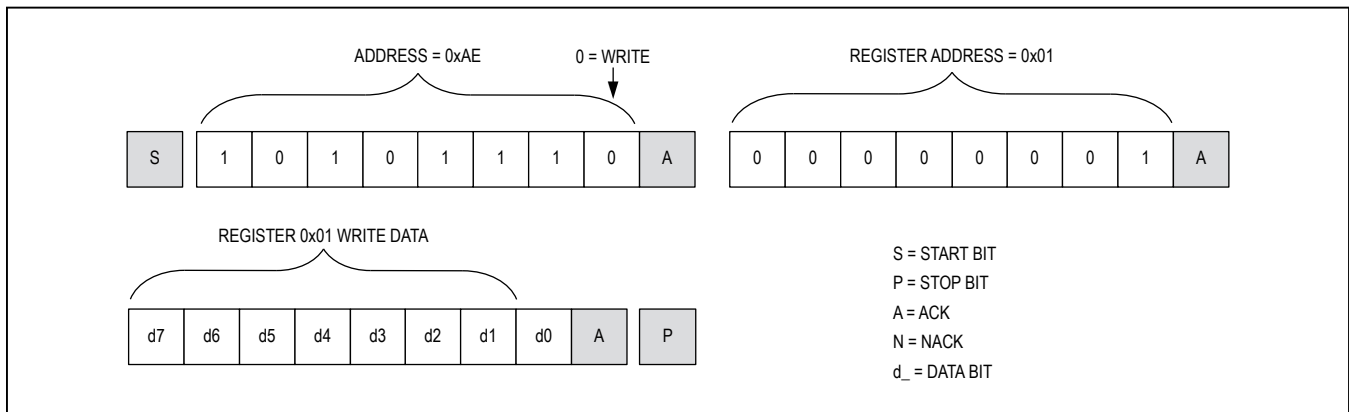
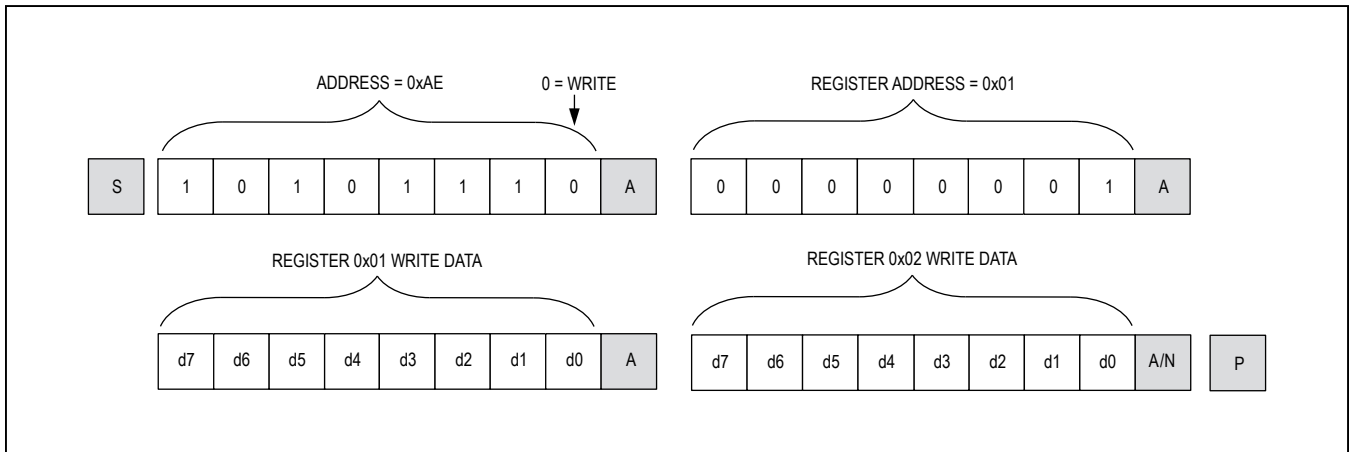

Figure 6. Format for I²C Write
Figure 7. Format for Writing to Multiple Registers
A write to the MAX20330A comprises the transmission of the slave address with the R/W bit set to zero, followed by at least 1 byte of information. The first byte of information is the register address or command byte. The register address determines which register of the device is to be written by the next byte, if received. If a STOP (P) condition is detected after the register address is received, then the device takes no further action beyond storing the register address. Any bytes received after the register address are data bytes. The first data byte goes into the register selected by the register address and subsequent data bytes go into subsequent registers (Figure 6). If multiple data bytes are transmitted before a STOP condition, these bytes are stored in subsequent registers because the register addresses autoincrement (Figure 7).